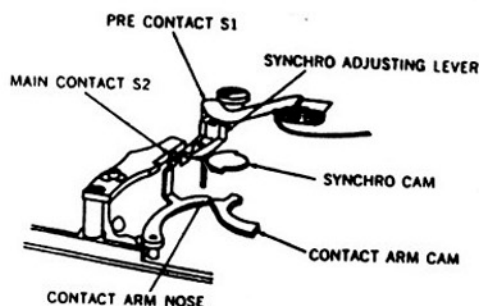
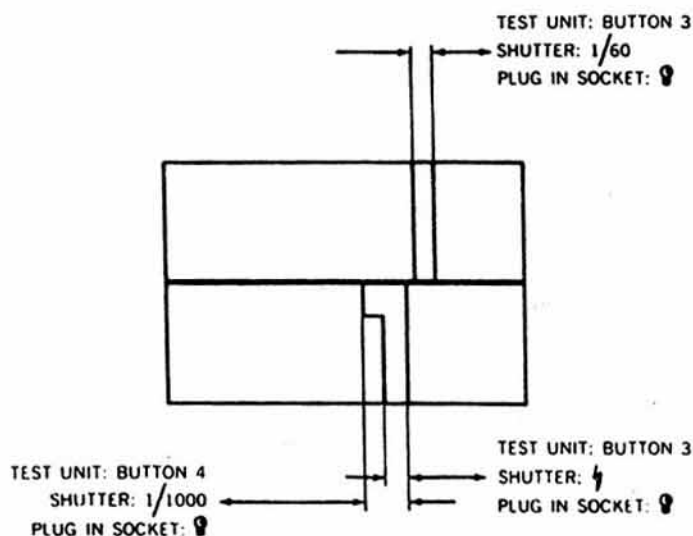

Figure 4-13. Flash Bulb Synchronizing Adjustments.
Figure 4-14. Flash Bulb Synchronizing Pattern.
a. *Checking and adjusting Flash Bulb Circuit* (fig. 4-13). Set the voltage selector switch of test instrument 42-531-Z1W13 to 500-volts. Connect the camera flash lamp socket to the test instrument with connecting cord 42-253.04.
- (1) *Checking insulation.*
- (3) *Checking contact closing* (fig. 4-13). Set the selector switch to "L", wind the camera shutter, and set the shutter speed dial to "B". Depress the shutter release. The indicator lamp must light. Repeat the operation for each of the shutter speeds, noting that the lamp lights each time the shutter is released. If it does not, check the contact points of switches S-1 and S-2, and correct the fault.
b. *Checking and Adjusting Flash Bulb Synchronization* (fig. 4-13, 4-14). Connect the camera's flash lamp socket to test instrument 42-253.01-Z1W109 with connecting cord 42-253.04. Remove the camera hinged back and insert tolerance pattern 42-253.01-Z1A96 in the film aperture. Position the camera lens mounting flange over the test instrument opening.
- (1) Depress button (4) on the test instrument.
- (2) Wind the shutter, and set the shutter speed dial to 1/1000-second.
- (3) Release the shutter, and observe the position of the shutter slit on the pattern plate. The shutter opening should coincide with the wide pattern on the plate (fig. 4-14). If it does not, proceed as follows:
- (a) Bend the main contact (S-2), fig. 4-13 with tool 42-253.01-U443W5.
- (b) Repeat the test in (3) above, and readjust the main contact until the shutter slit coincides with the 1/1000-second pattern on the plate.
- (4) Depress button (3) on the test instrument.
- (5) Wind the shutter, and set the shutter speed dial to 1/60-second.
- (6) Release the shutter, and observe the position of the first shutter curtain on the pattern plate. The edge of the shutter should fall within the narrow pattern on the upper part of the plate (fig. 4-14). If it does not, proceed as follows: